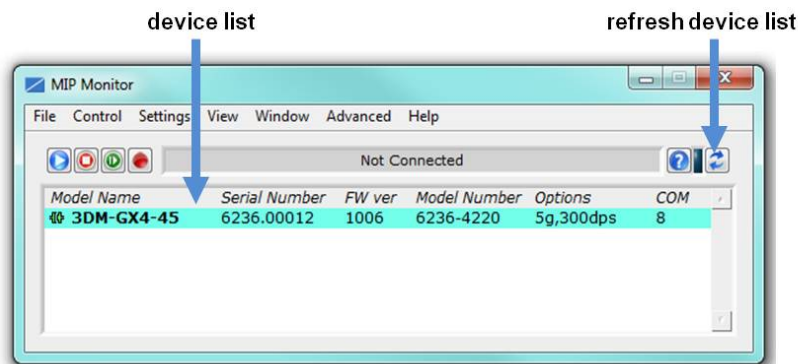

Figure 8 - Sensor Communication
3. The sensor should appear in the device list automatically when the software is running. The list includes the device information and communication port assignment (Figure 8 - Sensor Communication). If the sensor is not automatically discovered, use the refresh button.